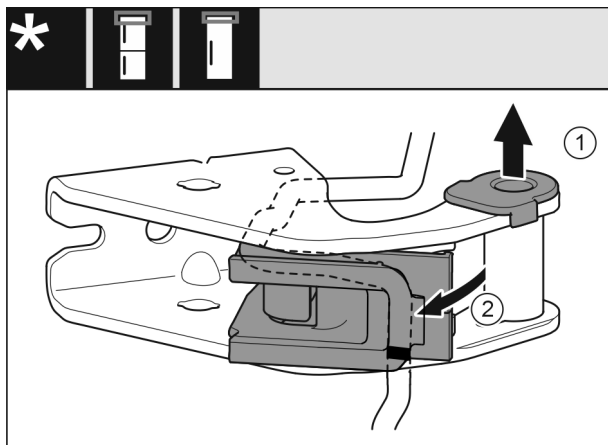

Fig. 24
- ▶ Pull out the bearing bushing Fig. 24 (1) from the guide.
- ▶ Swing out the cable bracket Fig. 24 (2).